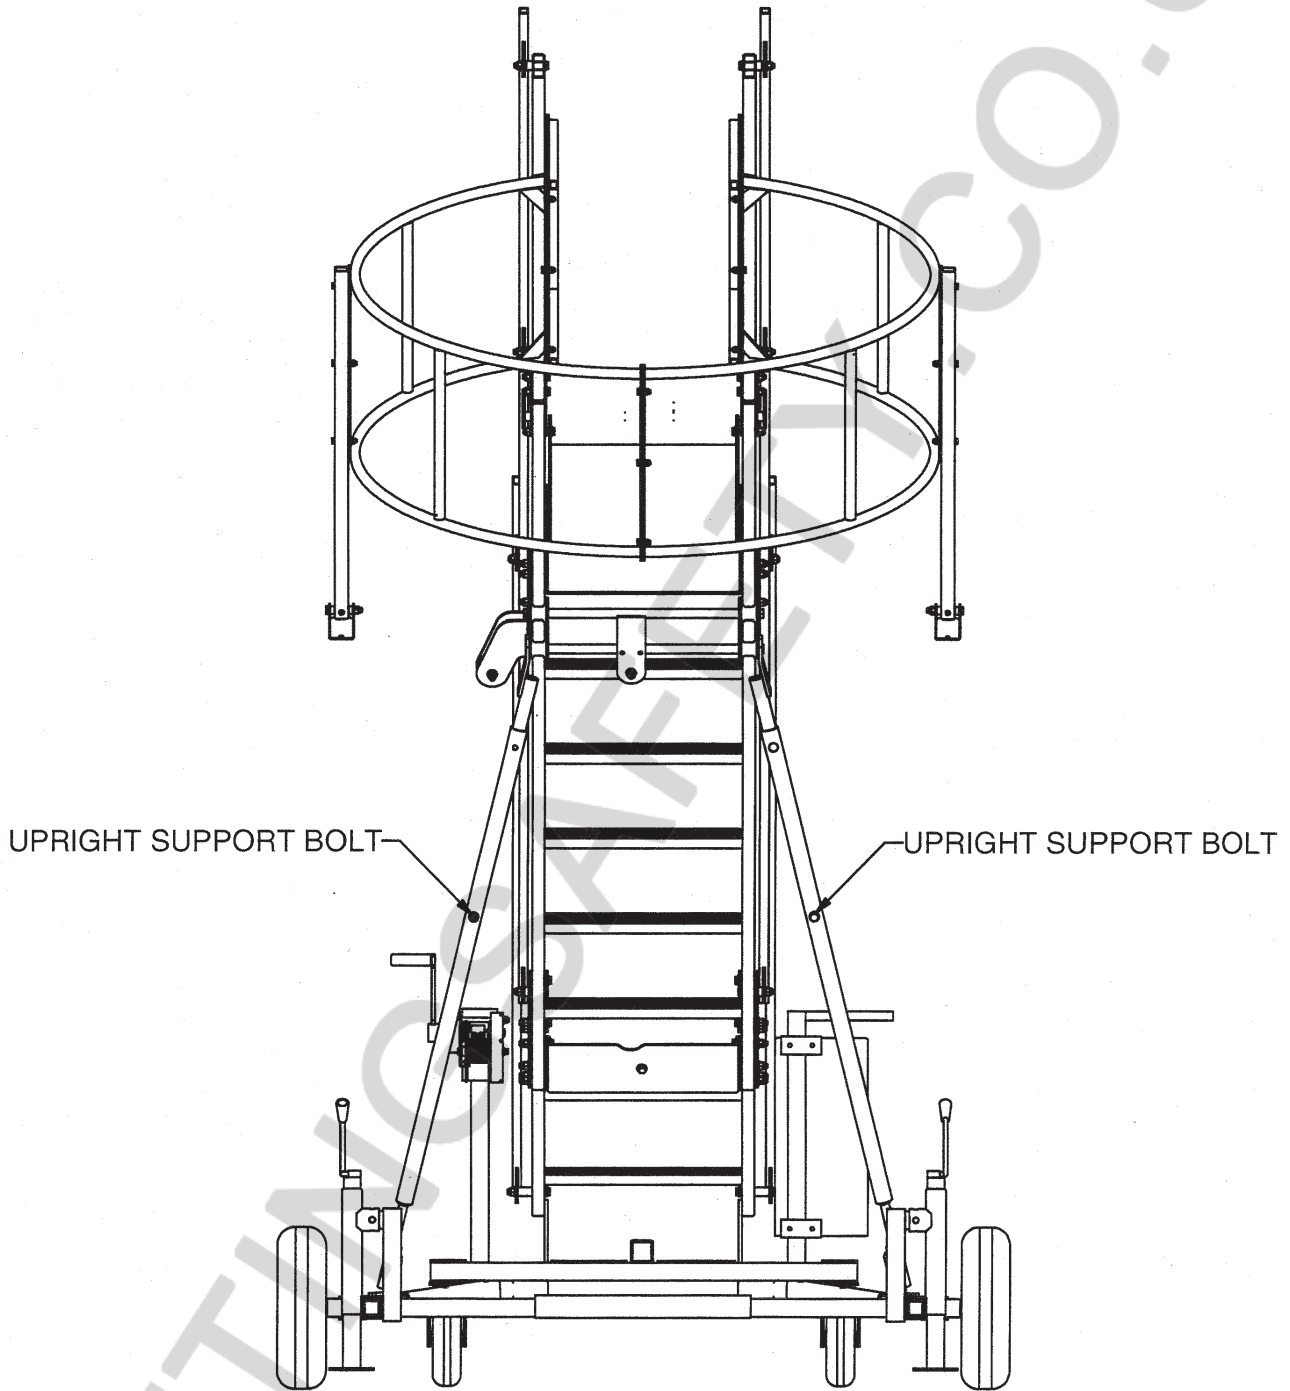
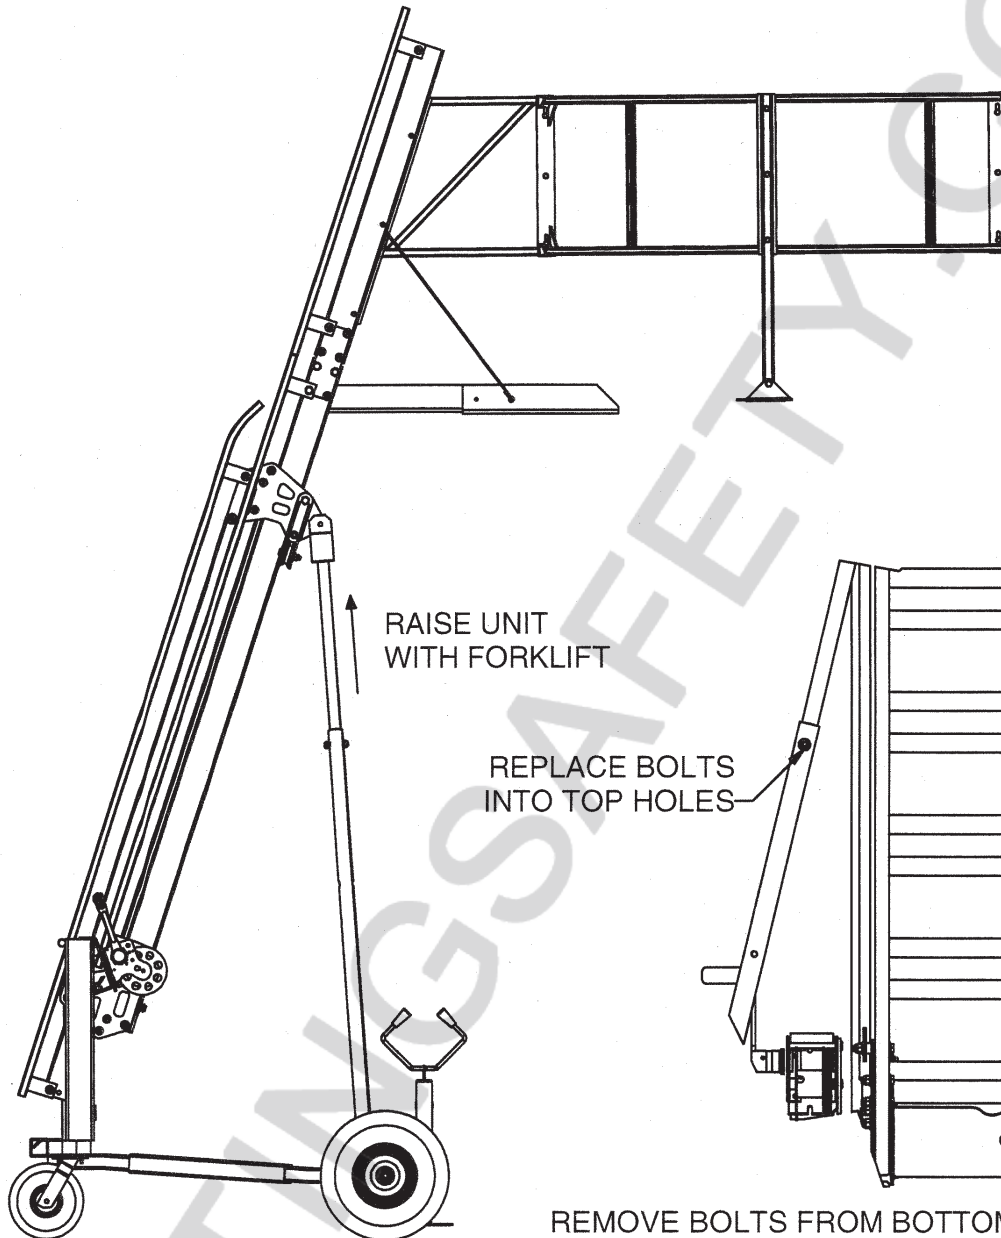
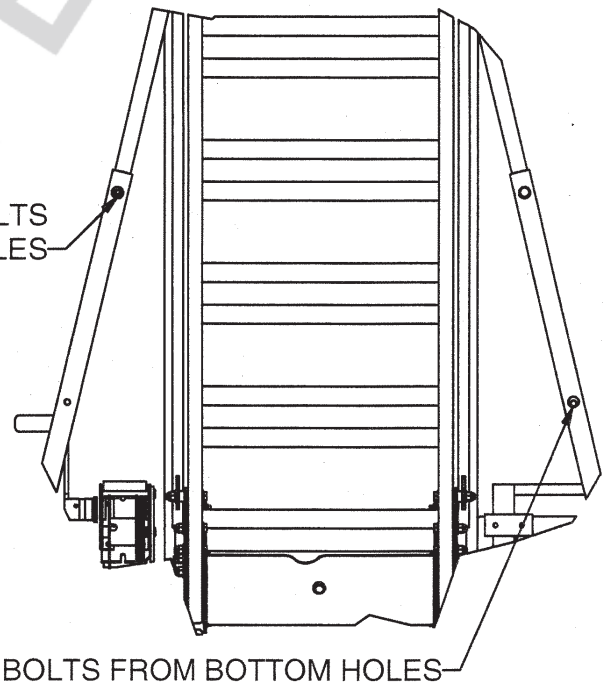

Figure 4
Figure 5
Figure 6
4. Locate bolts in upright support tubes (Figure 4).
- There will be a need for a forklift to be involved for lifting the ladder into position. Using the forklift to support the ladder, remove the bolts that were located in the Figure 4. Before lifting the ladder make sure there is some slack in the winch cable. Lift the cage level to the ground or until the holes in the support tubes are aligned with one another (Figure 5). Replace the bolts into the holes and tighten (Figure 6). Do not stand underneath the unit when setting it up, support tubes must be firmly in position and bolted before maneuvering the unit.